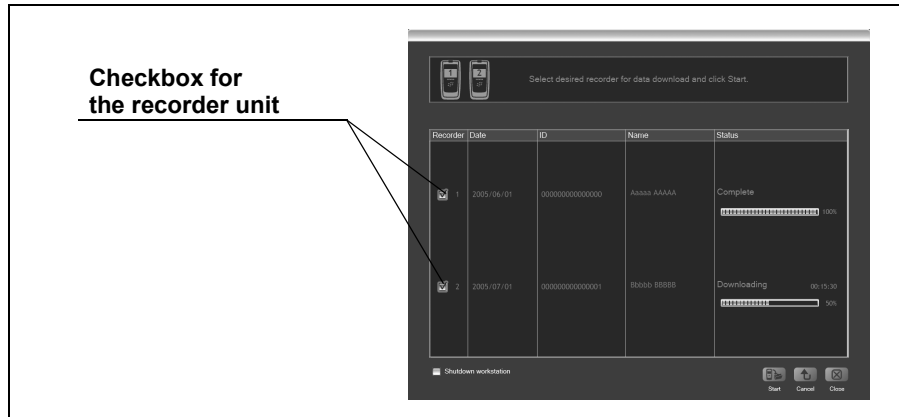

Figure 5.54
8. Check the checkbox for the recorder unit from which information is to be downloaded (see Figure 5.54).